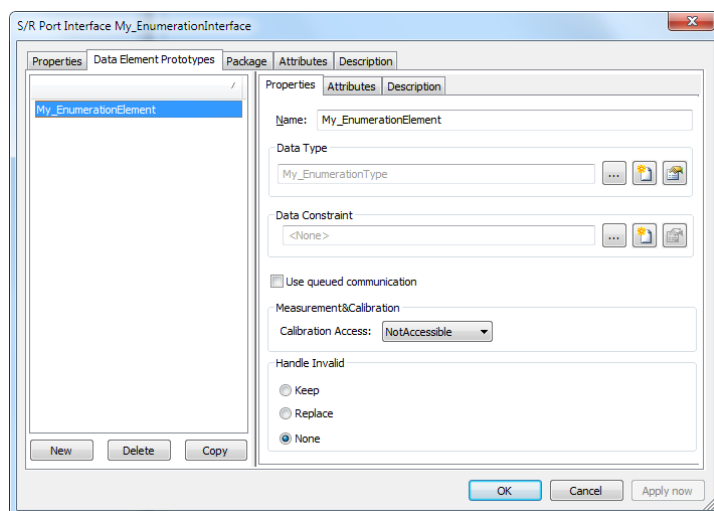

Figure 4-34 “My_EnumerationInterface”
- A sender/receiver port interface “My_EnumerationInterface” is created. It contains one data element of type “My_EnumerationType” (see Figure 4-34).